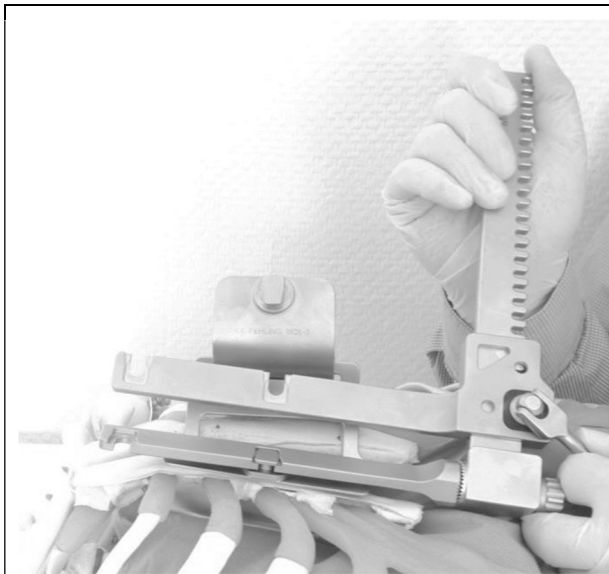

Fig. 12
3. Introduce the sternal retractor with the mounted sternal blade into the saw cleft and position at the desired retraction site (Fig. 12).